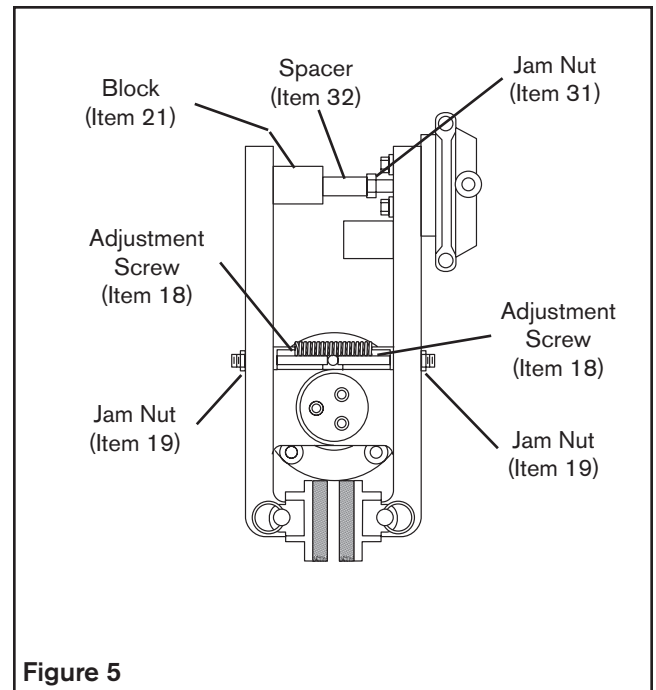

Figure 5
1. Loosen the Jam Nut (Item 19) (See Figure 5).
2. Turn the Adjustment Screw (Item 18) counterclockwise until a 0.79 mm [1/32 inch] customer supplied spacer can be inserted between each Friction Facing (Item 6) and the disc. Each side may be adjusted individually (See Figure 5).
3. With customer supplied spacers inserted, turn each Adjustment Screw (Item 18) clockwise until a resistance is felt (See Figure 5).
4. Remove the customer supplied spacers and tighten the Jam Nut (Item 19) to 20.3-27 Nm [15-20 ft-lb] torque (See Figure 5).
5. Loosen the Jam Nut (Item 31) (See Figure 5).
6. Adjust the Spacer (Item 32) until its spherical end touches the Block (Item 21) (See Figure 5).
7. Tighten the Jam Nut (Item 31) to 20.3-27 Nm [15-20 ft-lb] torque (See Figure 5).